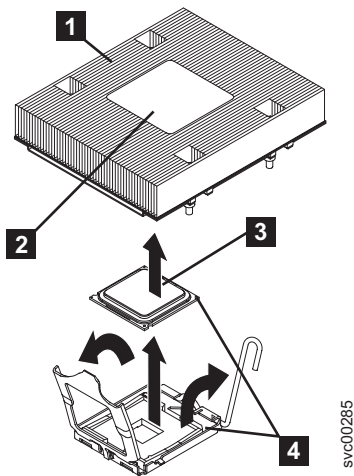

Figure 248. Removing the heat sink from the microprocessor
3. Remove the heat sink (**1** in Figure 248). Loosen two captive screws on alternate sides of the heat sink fully before loosening the other two captive screws. (This helps to break the bond between the heat sink and the microprocessor.) After the captive screws are loosened, remove the heat sink.